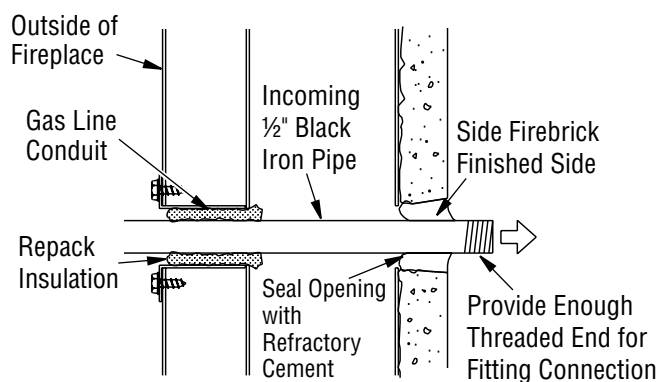

Figure 22 - Gas Line Installation
3. Run a 1/2" black iron gas line into fireplace through rear of gas line conduit sleeve (if using a raised platform, add height). Provide sufficient gas line into fireplace chamber for fitting connection (see Figure 22).